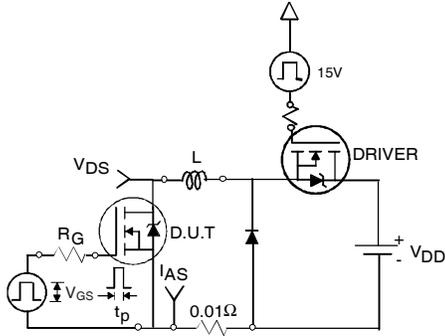

Fig 12a. Unclamped Inductive Test Circuit
- ④ Pulse width ≤ 400μs; duty cycle ≤ 2%.
- ⑤ C_{oss eff.} is a fixed capacitance that gives the same charging time as C_{oss} while V_{DS} is rising from 0 to 80% V_{DSS}.
- ⑥ Limited by T_{Jmax}, see Fig.12a, 12b, 15, 16 for typical repetitive avalanche performance.
- ⑦ This value determined from sample failure population. 100% tested to this value in production.
3. Equation below based on circuit and waveforms shown in Figures 12a, 12b.